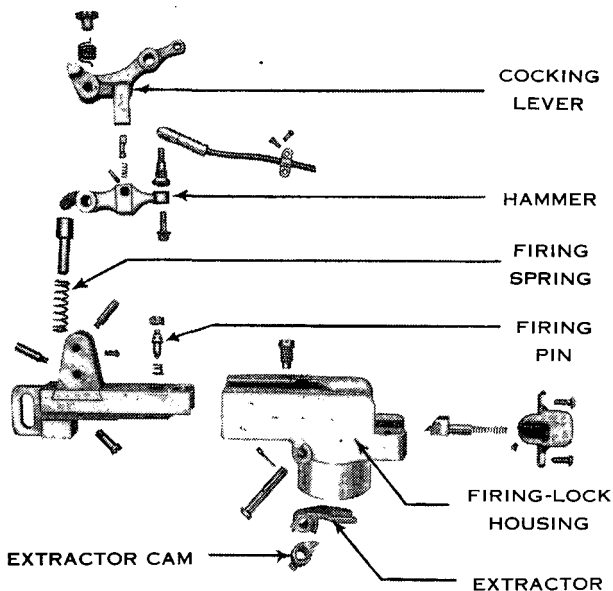

Figure 17. Firing lock.
b. Examine all parts of the firing lock (fig. 17), looking especially for a—
- (1) Broken extractor.
- (2) Worn extractor cam.
- (3) Deformed firing pin.
- (4) Broken or weakened firing spring.